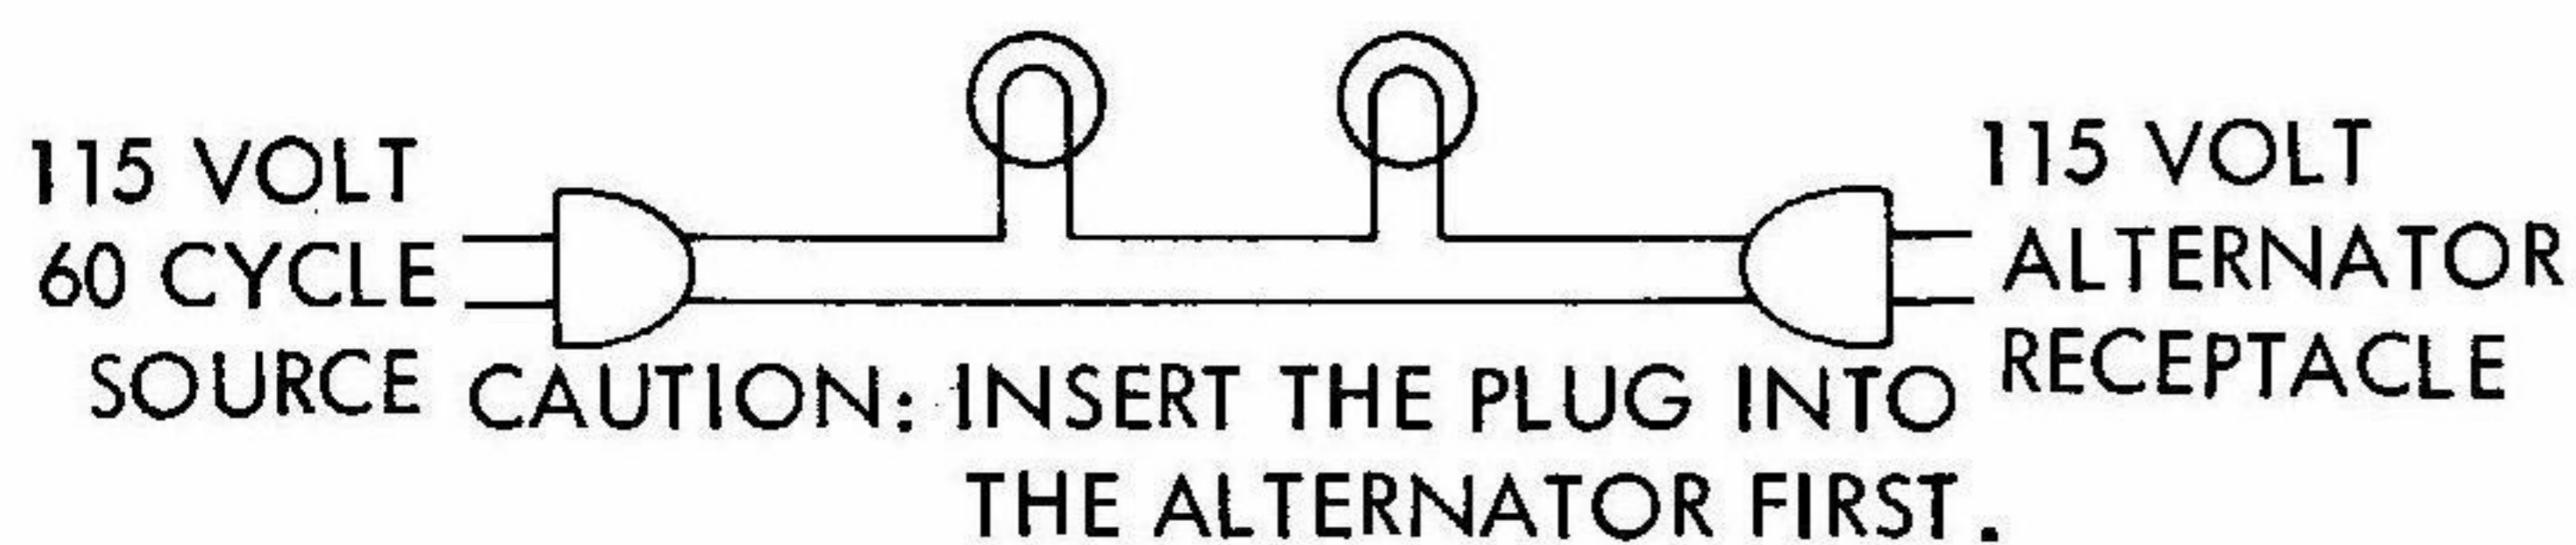

Figure 6. Adjusting the Frequency
1. With the engine stopped, connect a cord with two 100 watt bulbs connected in series to the 115 volts alternator receptacles and to an outlet with 115 volts, 60 HZ power as illustrated in Figure 6. The two bulbs will burn dimly. CAUTION: Insert the Plug into the Alternator First.